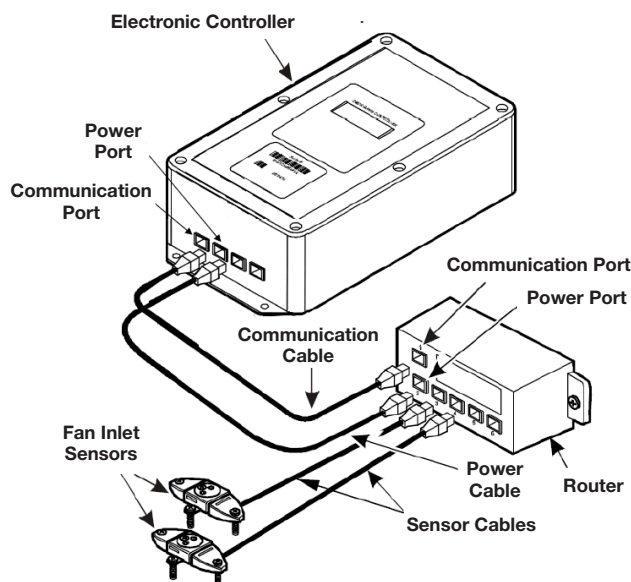

Figure 8: EFAMS System Components
1. Connect shielded CAT5e cable between the Communication Port RJ45 connector on the router (see **Figure 8 and Figure 9**) to the Communication Port RJ45 connector on the Electronic Controller (see **Figure 8 and Figure 9**).
2. Connect the included shielded CAT5e cable between the Power Port RJ45 connector on the router (see **Figure 8 and Figure 9**) to the Power Port RJ45 connector on the Electronic Controller (see **Figure 8 and Figure 9**).